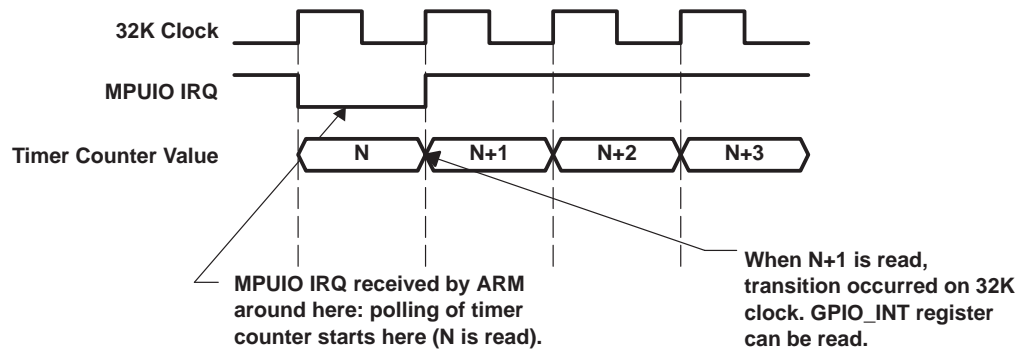

Figure 12. Polling the Timer 32k Timer
- Poll the timer 32k counter until there is an increment (see Figure 12, which describes the procedure)